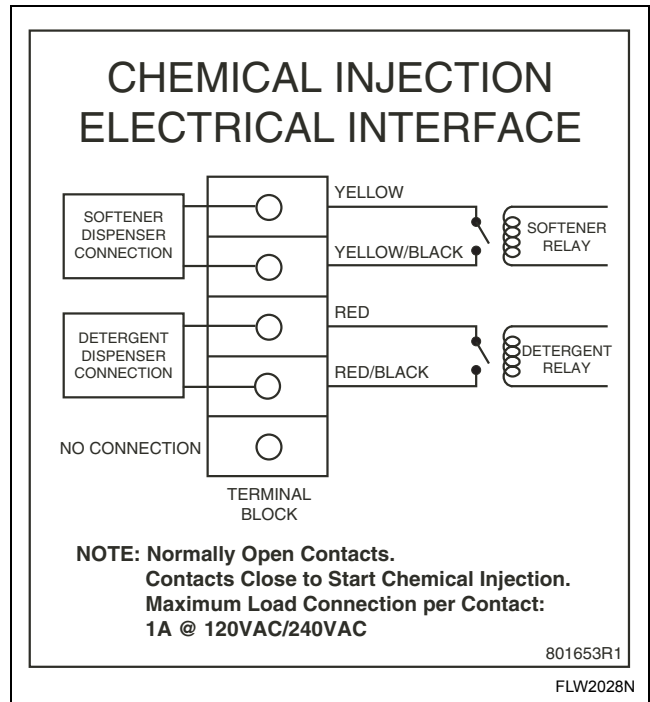

Figure 13
4. Refer to supply injection system instructions and label inside washer junction box cover (*Figure 13*) for electrical connection.
A junction box on the rear panel houses a terminal strip which furnishes supply output signals for the supply injection pumps. These are dry contacts. Voltage needs to be supplied. Refer to *Figure 13* for the injection interface label.